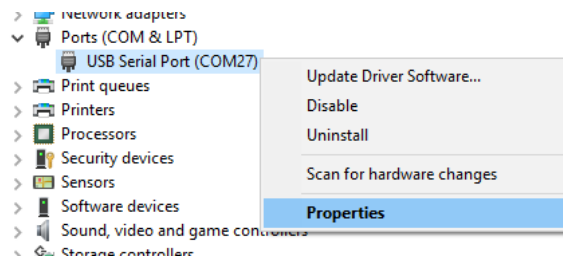
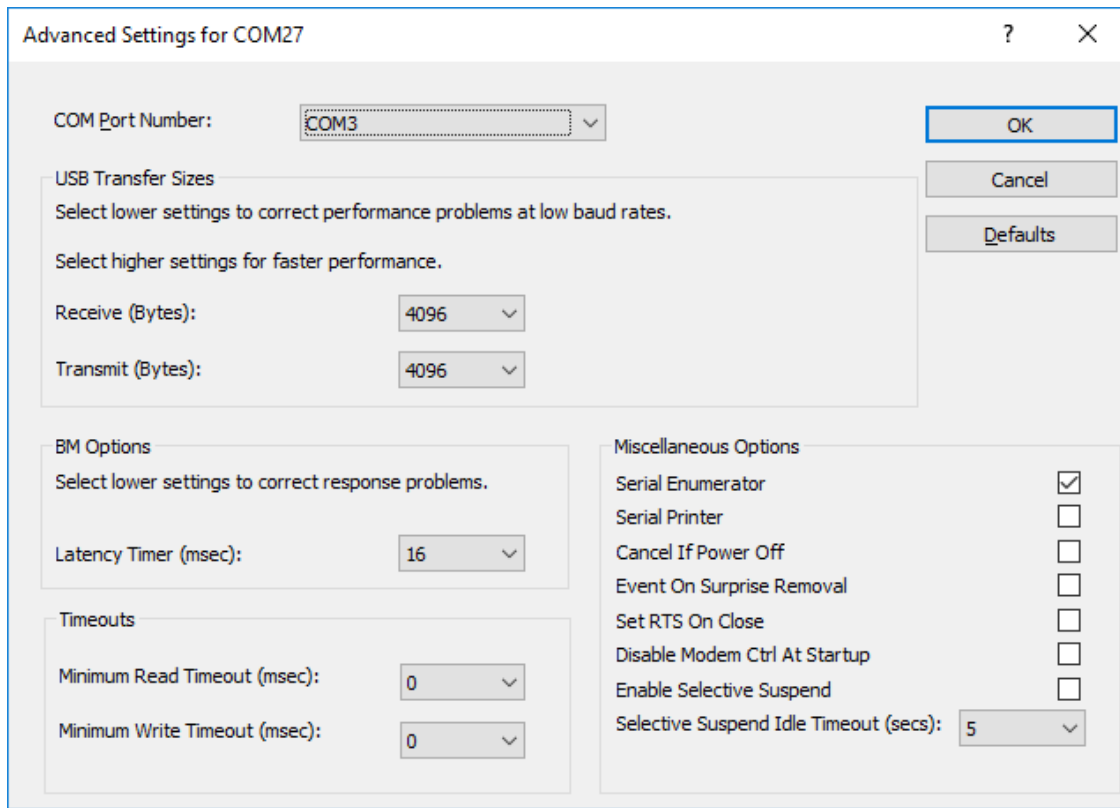

Fig. C.19: Right-click to choose **Properties**
Fig. C.20: Change the COM port to a lower number
- Current versions of DataRay software will scan the computer's COM ports for stages up to COM26. If Windows assigns a number higher than COM26 for the stage, then the DataRay software will not recognize the stage. This is a rare occurrence, but can sometimes happen with computers that have previously used many COM accessories. To fix the issue, open the Device Manager in Windows. Click on the dropdown arrow next to Ports for a list of the currently attached COM Ports. If there are several COM ports recognized, then unplug the stage to identify which port disappears; reattach the stage and the port will reappear. If the COM port number is above COM26, right-click on it and choose Properties as shown in Figure C.19. Go to the Port Settings tab and click the Advanced... button. Change the COM Port Number to a lower port number as shown in Figure C.20, then press OK to close each dialog. Start the DataRay software, which should now be able to recognize the stage.